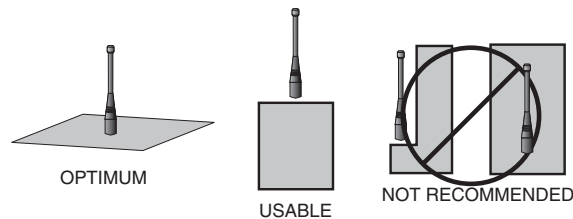

Figure 32: Ground Plane Orientation
2. Optimum performance is obtained from a  $\frac{1}{4}$ - or  $\frac{1}{2}$ -wave straight whip mounted at a right angle to the ground plane (Figure 32). In many cases, this isn't desirable for practical or ergonomic reasons, thus, an alternative antenna style such as a helical, loop or patch may be utilized and the corresponding sacrifice in performance accepted.